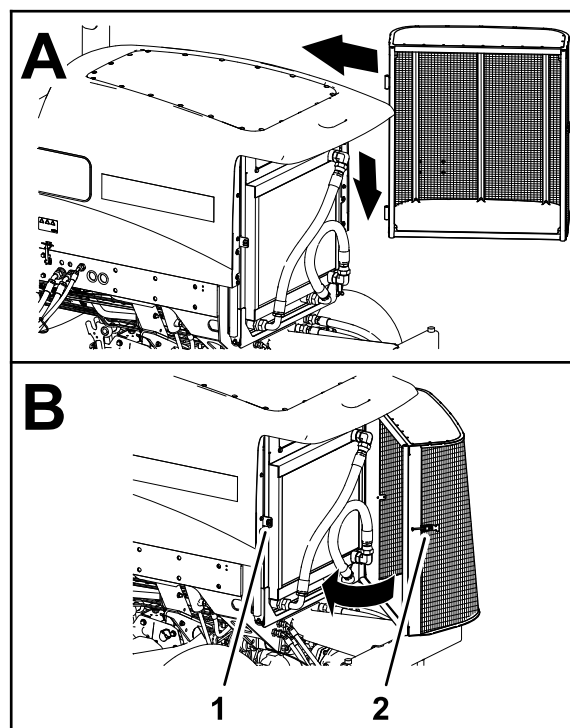

Figure 101
8. Assemble the screen onto the hinge pins (Figure 101).